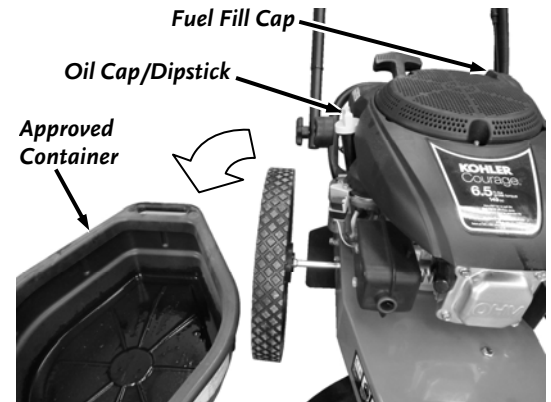

Figure 23
4. Using the handle of the DR TRIMMER/MOWER, tip the machine to drain the oil out through the Oil Filler Tube into a suitable receptacle (**Figure 23**).